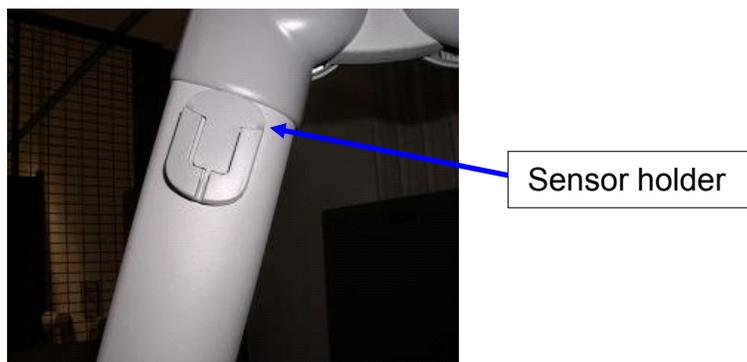

Figure 7
1. Attach the sensor holder to the articulating arm by peeling off the tab and exposing the sticky tape (see Figure 7 on page 11).